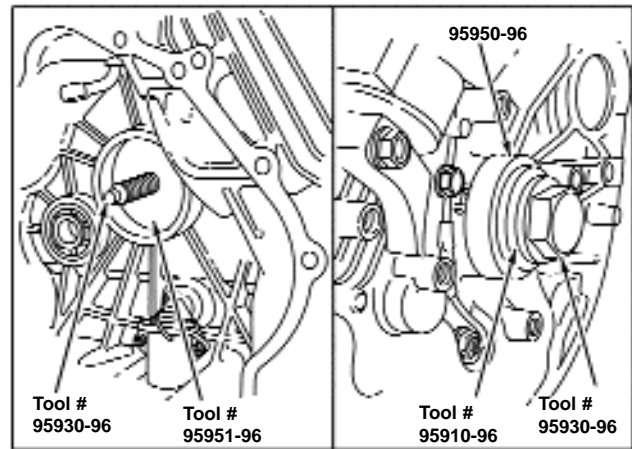

Figure 138 - Installing Bearing - Mag. Side
5. Insert screw through pilot and thread into support. Tighten screw until ball bearing is seated, Figure 138.